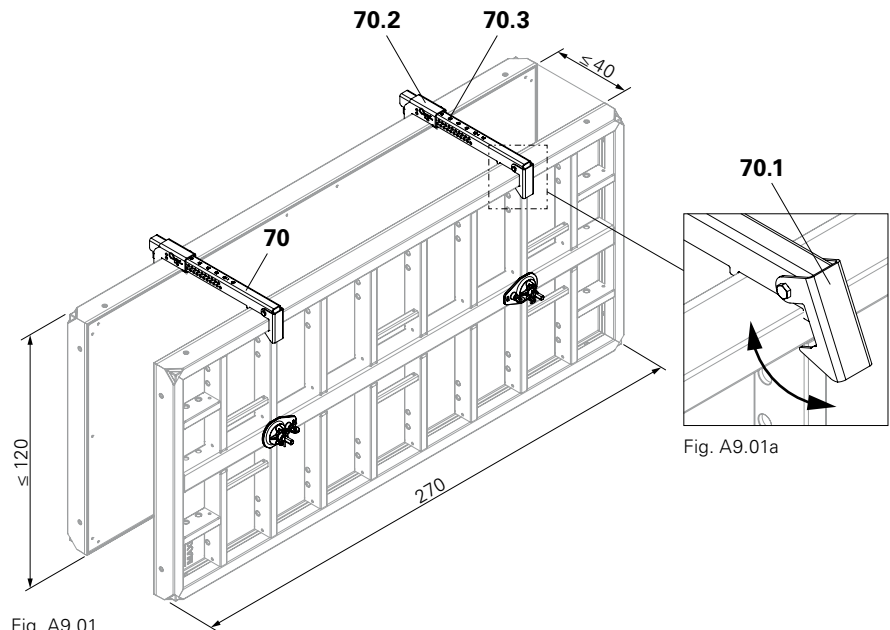

Fig. A9.01
- Wall thickness ≤ 40 cm: MX 15-40 (Fig. A9.01)